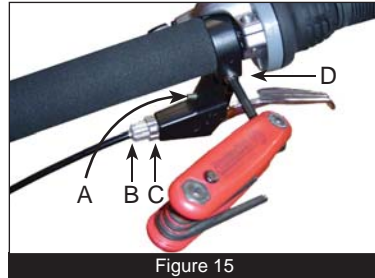

Figure 15
**Hand Reach:** You should be able to grasp brake levers quickly from a hand rest position on the handlebars. Rotate each brake lever until you can do so. Loosen the brake lever clamp bolt (D in **Figure 15**), with the 5-mm Allen wrench shown, and rotate the lever on the handlebars to a quickly reachable position. Tighten the clamp bolt to 44—60 inch/pounds.
**Finger Fit:** If the brake lever begins to apply braking force as soon as you depress it, adjust its “reach” with a 2-mm Allen wrench (A in **Figure 15**), until your fingers can safely and comfortably apply force to the brakes. The brake lever can be safely depressed up to about one inch from the handlebar. If the brake lever comes any closer the brake cable has stretched. Cable stretch reduces braking power and response, so remove this stretch.
Loosen cable slack adjuster locknut, (C in **Figure 15**) a few turns. Turn slack adjuster (B in **Figure 15**) counterclockwise until slack is removed. Tighten locknut (C in **Figure 15**) against the brake body. Repeat if the brake lever still comes more than an inch from the handlebars. Make this adjustment on all brake levers as necessary.